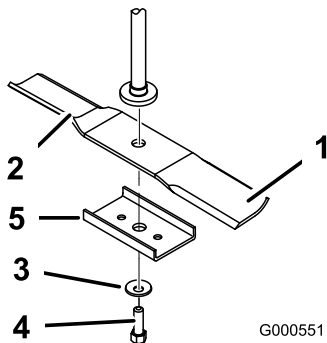

Figure 38
Hold the blade end using a rag or thickly-padded glove. Remove the blade bolt, curved washer, blade stiffener, and blade from the spindle shaft (Figure 38).
1. Install the blade onto the spindle shaft (Figure 38).
2. Install the blade stiffener, the curved washer (cupped side toward the blade) and the blade bolt (Figure 38).